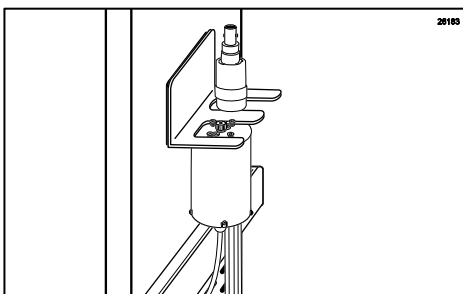

Figure 27
- Slide the Drive Motor onto the Accessory Hanging Bracket. (See Figure 27.)